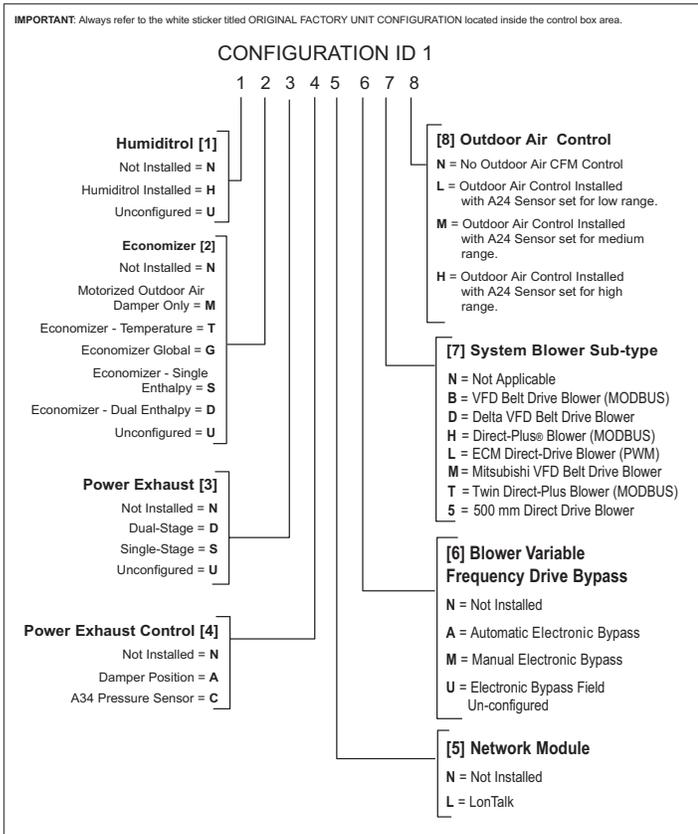
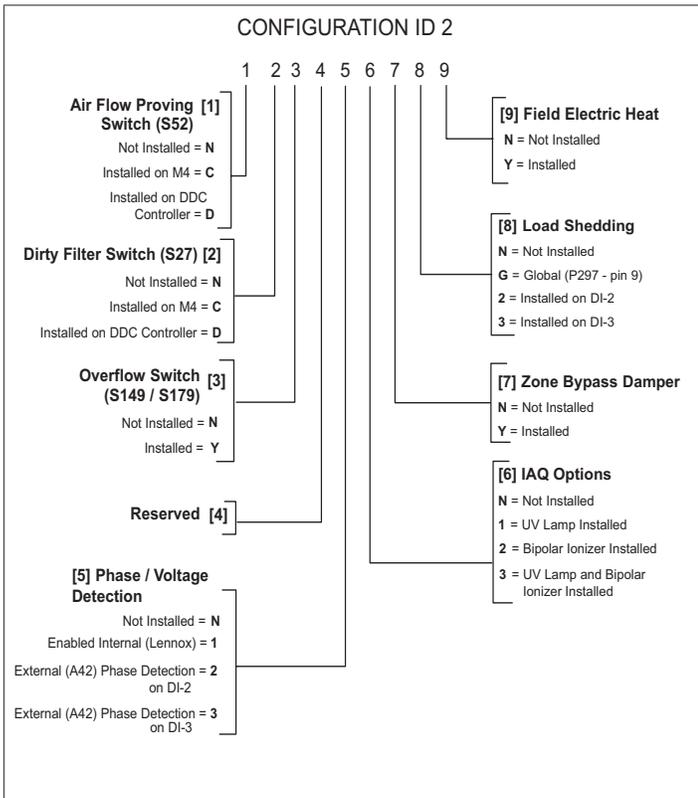

Figure 6. Configuration ID 1
Figure 7. Configuration ID 2
- RTU Information. Configuration ID 1 and 2 can be entered here. See “Figure 6. Configuration ID 1” on page 16 and “Figure 7. Configuration ID 2” on page 16 for further details.